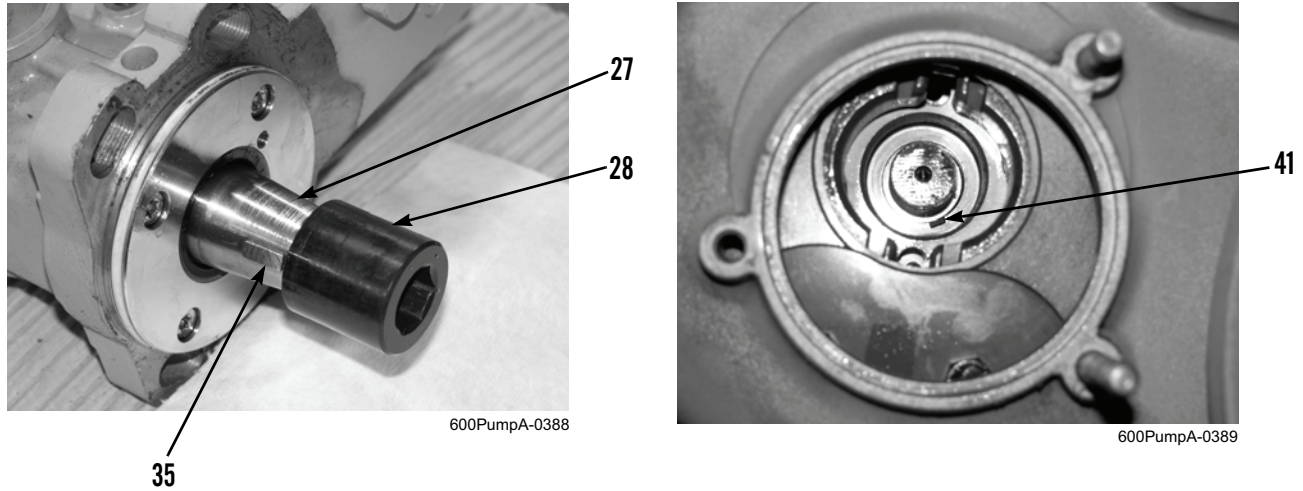

Figure 20. Woodruff Key Alignment.
10. Install tensioning nut (Figure 20, Item 28) on fuel injection pump shaft (Figure 20, Item 27) and rotate fuel injection pump shaft until fuel injection pump Woodruff key (Figure 20, Item 35) aligns with engine timing gear slot (Figure 20, Item 41)
11. Remove tensioning nut (Figure 20, Item 28) from fuel injection pump shaft (Figure 20, Item 27).